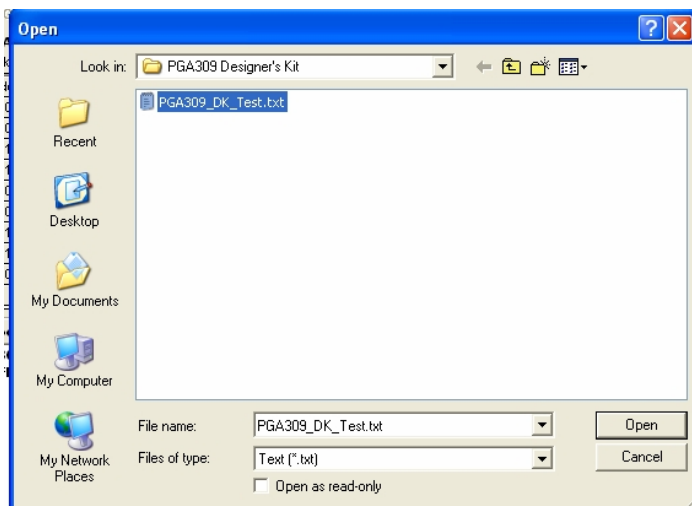

Figure 12: Open File Pop-up Window
1) In the Main Window click on “Open File”. A pop-up window will appear as in Figure 12.